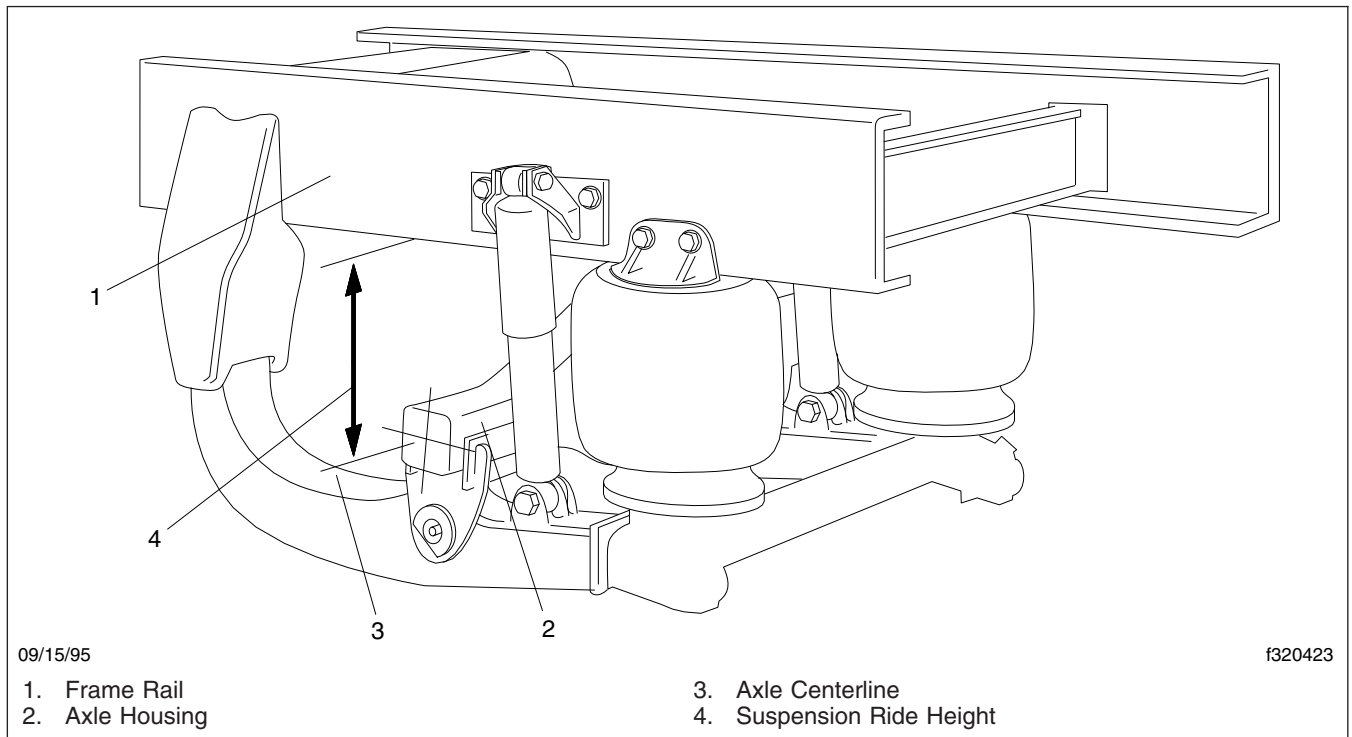

Fig. 14, Neway Ride Height Inspection
5. Check the riding height of the air suspension by measuring the distance from the centerline of the rear axle (see **Fig. 14**) to the bottom of the frame rail. If the riding height is incorrect, adjust the air suspension.